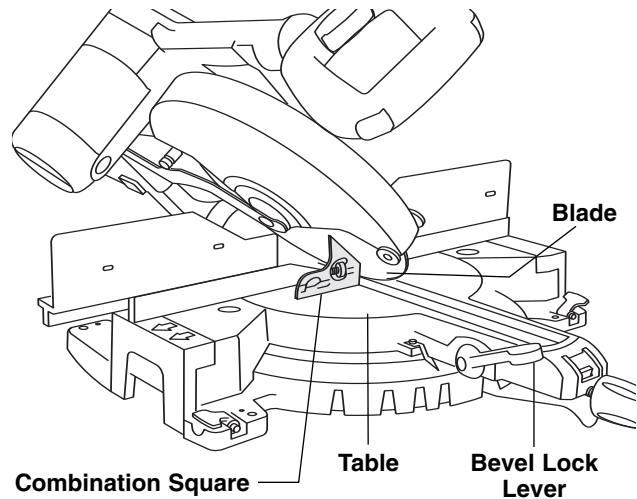

Figure 1. Left 45° Bevel Stop
7. Use the head (remove ruler) of a combination square to check blade at the 45° stop. Place the combination square head on the table and press its 45° surface against the blade. If the blade does not contact the full length of the square, (figure 1), follow the calibrating procedure.
4. Remove the ruler from the combination square and position with 45° surface against blade. (Figure 1)